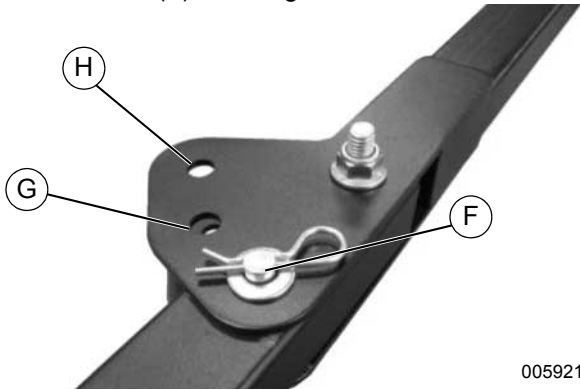

Figure 3-10. Offsetting the Tow Bar Extension
2. Rotate tow bar from no offset to medium offset (B) or full offset (C).
- See **Figure 3-10**. Remove clevis pin and hair pin with washer (F) securing tow bar extension.